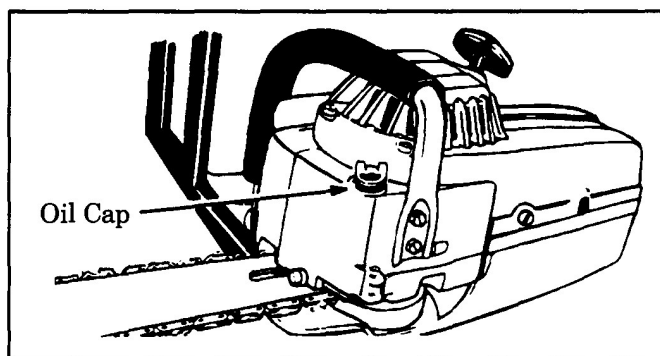

Figure 12
- b. Turn the saw on its side with the oil cap up. Figure 12.